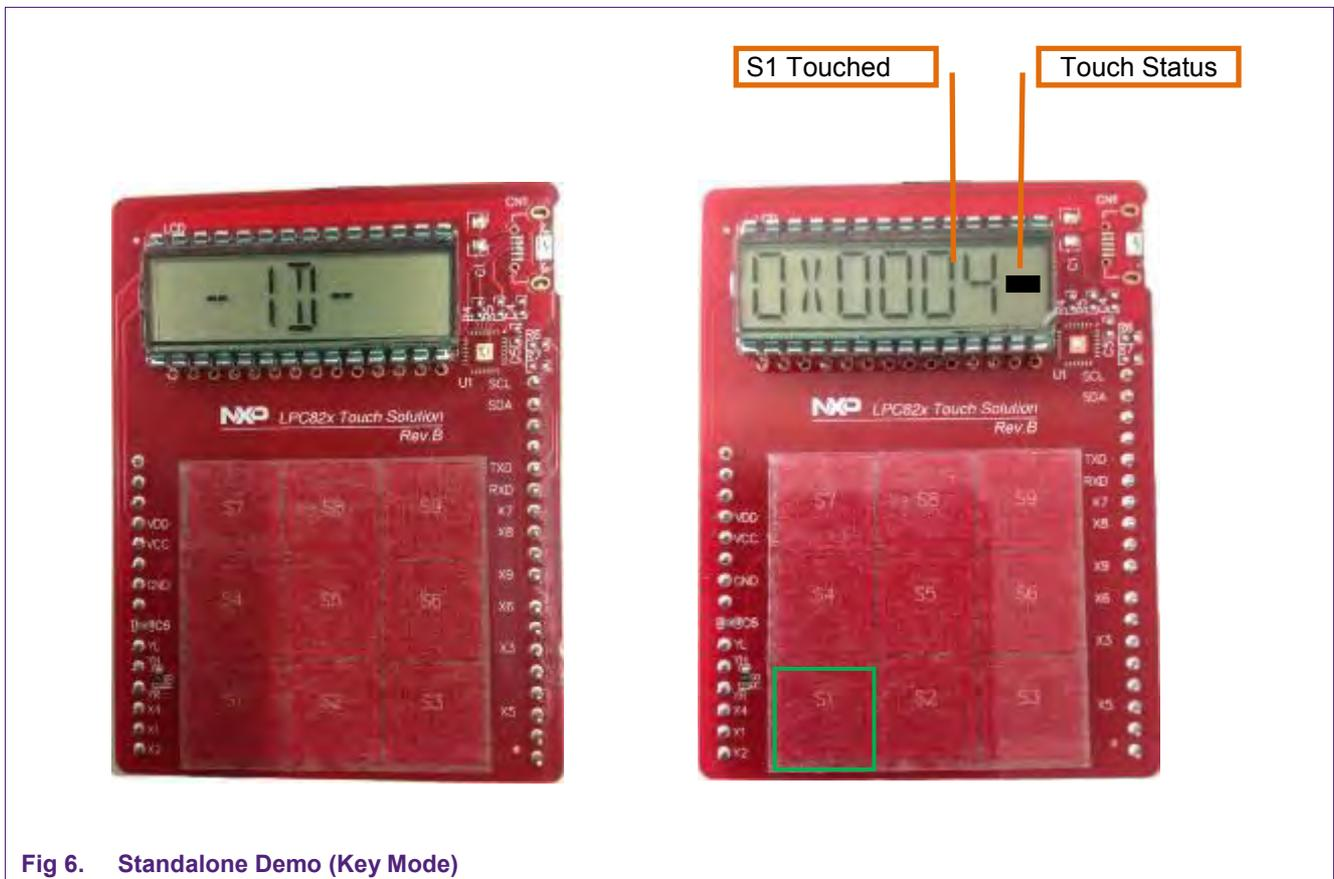

Fig 6. Standalone Demo (Key Mode)
- Change of mode is indicated by displaying “--1D--” which stays until the touchpad is touched, as shown in Fig 6.